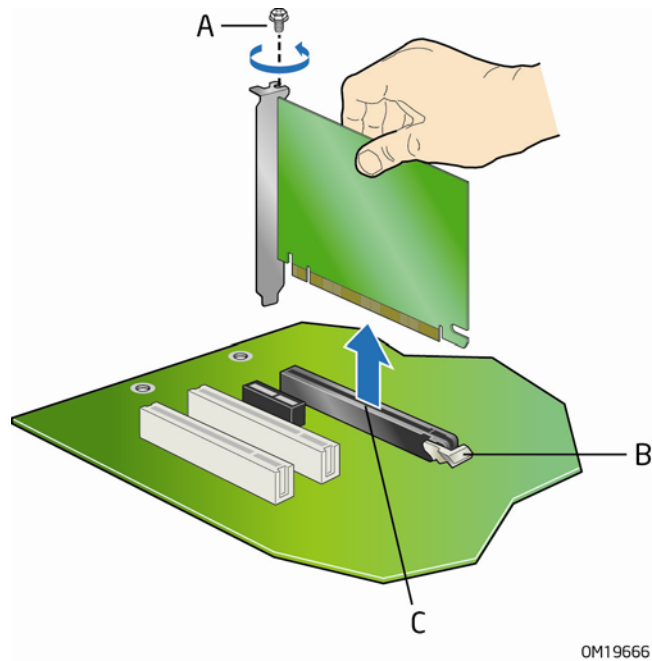

Figure 17. Removing a PCI Express x16 Card
2. Remove the screw (Figure 17, A) that secures the card's metal bracket to the chassis back panel.
3. Push down on the card ejector lever (Figure 17, B) to release the card from the connector (C).